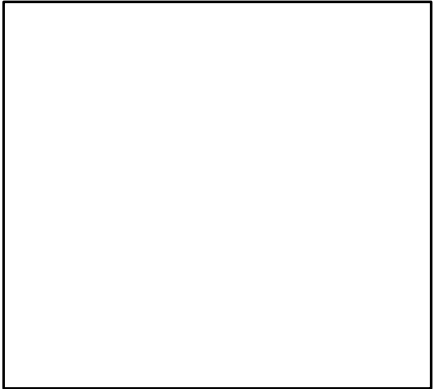

Figure 2-5. Wiring the Common System Connections Using the Internal Isolated Supply
**Recommendation:** Use 14 to 20 AWG stranded wire; further, if you insert more than one wire into a screw terminal, twist the wires together and solder them. For the common system connections, insert the wire into the green screw-type terminal that comes with the SMC20. If you intend to operate from the internal isolated DC supply (24 V) on the SMC20, use its green screw-type terminal which also comes with the controller as shown in Figure 2-5.